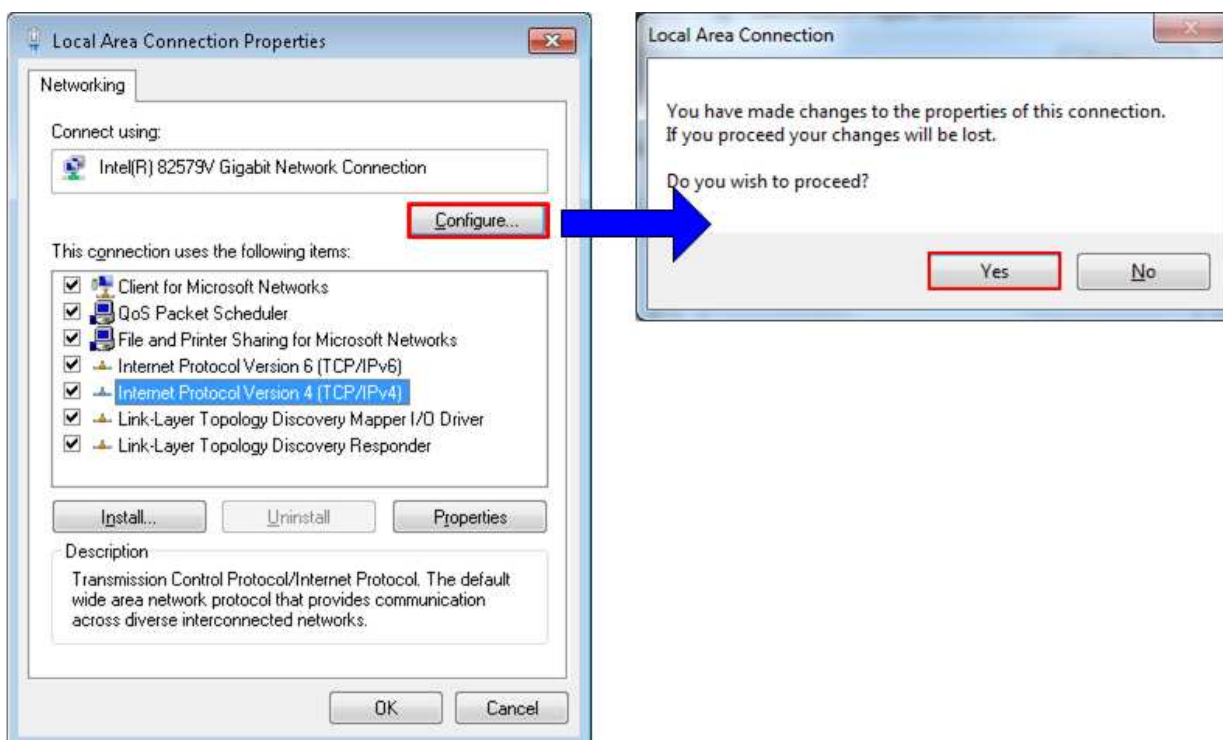

Figure 3-2 Network Configure
- On Local Area Connection Properties window, click “Configure”, as shown in Figure 3-2.